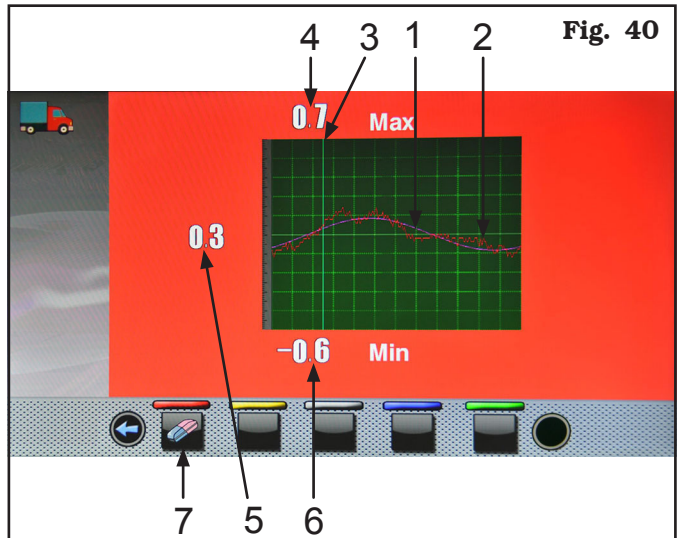

Fig. 40
The circle starts to spin at low speed (30 rpm) and at the end of the measurement the roundness graph appears, as shown in the Fig. 40.
The red graph (**Fig. 40 ref. 2**) represents exactly the geometric shape of the rim. The more the circle is round and linear, the more the graph is flat, unlike the more the circle has deficiencies, the more the graph is large.
You can follow the eccentricity in the graph by manually turning the rim, the green-coloured-slider (**Fig. 40 ref. 3**), indicates the position of the rim in "12 o'clock" position.